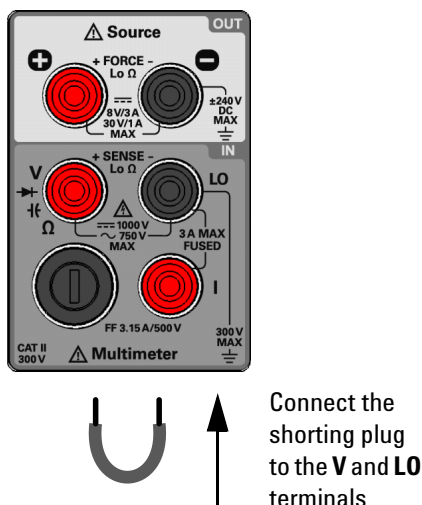

Figure 5-1 Test setup for zero offset (short) verification
- 1 Connect the shorting plug to the **V** (red) and **L0** input terminals (see **Figure 5-1 on page 146**). Leave the current input open.